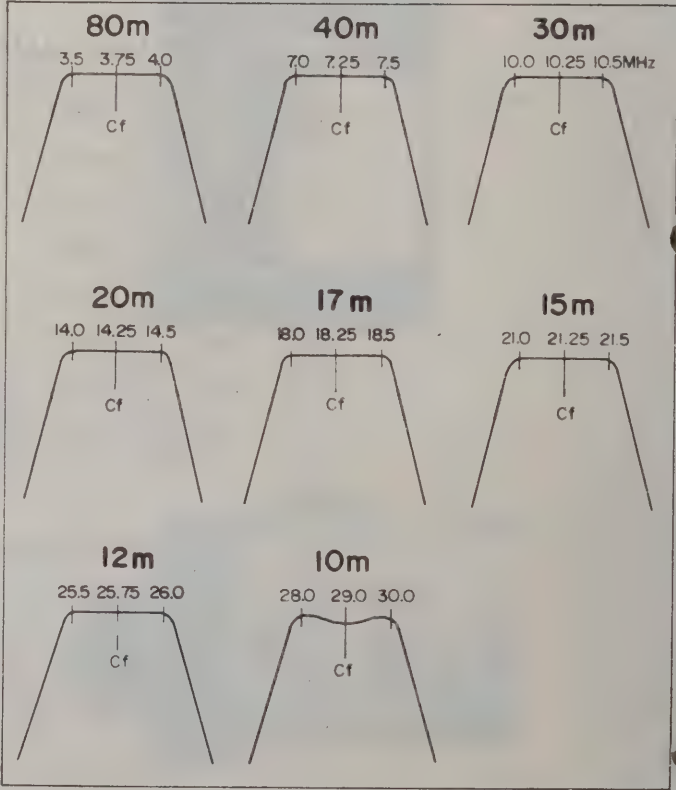

Figure 3-18 RF BANDPASS FILTER
(2) RF Bandpass Filter Adjustment
- b) Adjust the transformers shown in Table 3-5 for the pattern shown in Figure 3-18.